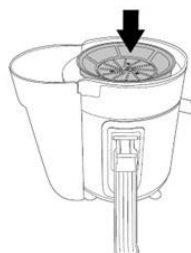

Fig.3
5. Grip the side of the sieve and slot it onto the drive spindle. Once they are aligned, press downward on the sieve until the sieve engages with the spindle (Fig. 3)